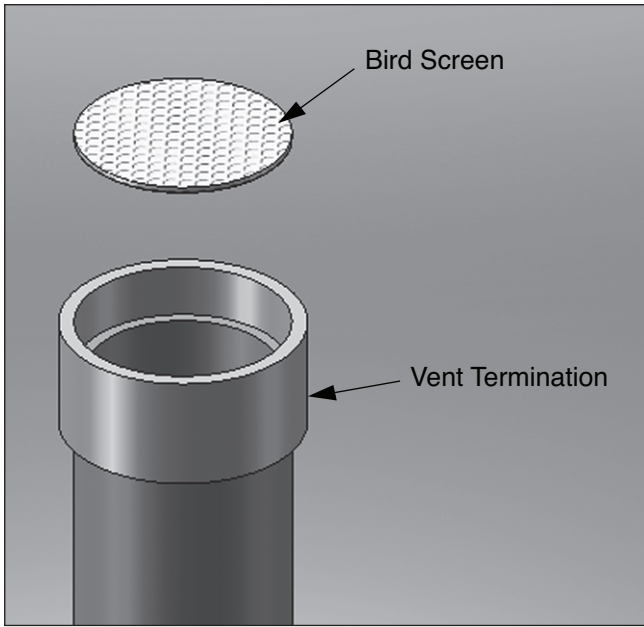
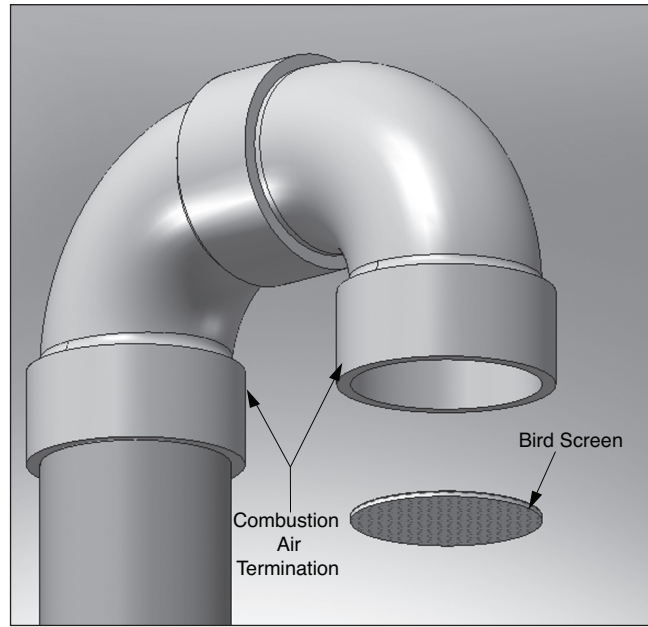

Fig. 3 - Vertical Vent Bird Screen Installation
Fig. 4 - Vertical Combustion Air Bird Screen Installation
1. The vent and combustion air terminations must include a factory supplied "bird screen" installed as shown in *Fig. 3* and *Fig. 4* on page 16